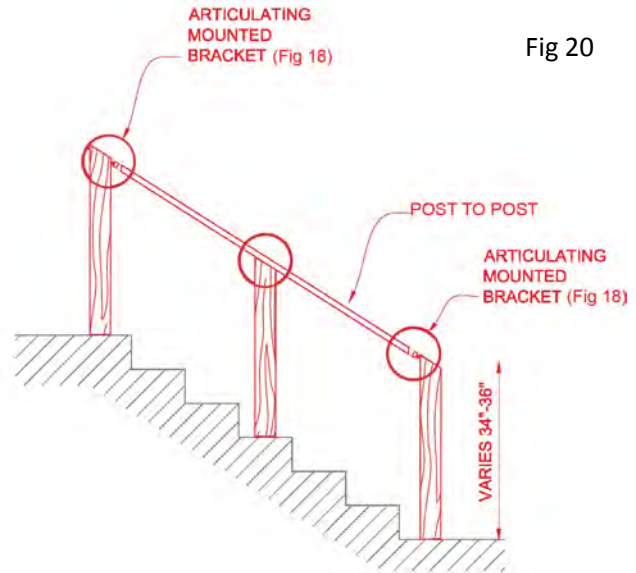

Fig 20
- Post-To-Post hand rail is often used as a standalone stair hand rail (Fig 20).